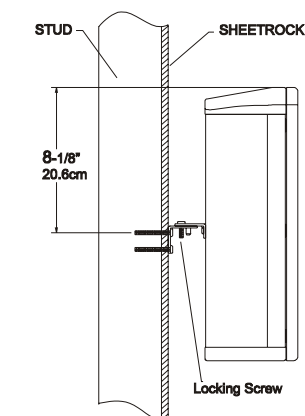

Figure 17
- Refer to figures 17 and 18 to install the appropriate Wall Bracket on the wall (orient the bracket as illustrated) using the supplied Mounting Screws. If the Flush Mount Bracket is used, attach the